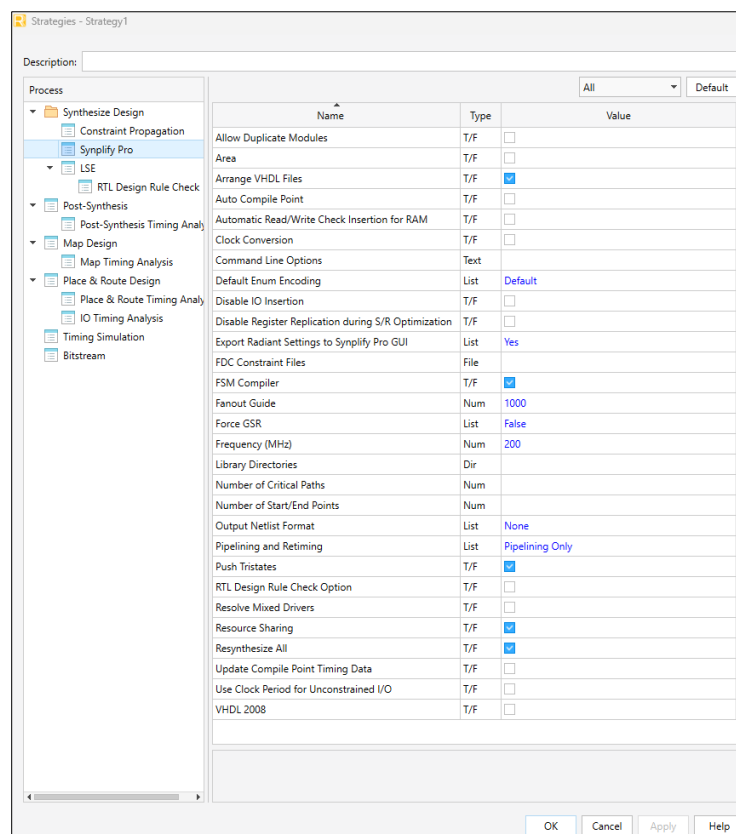
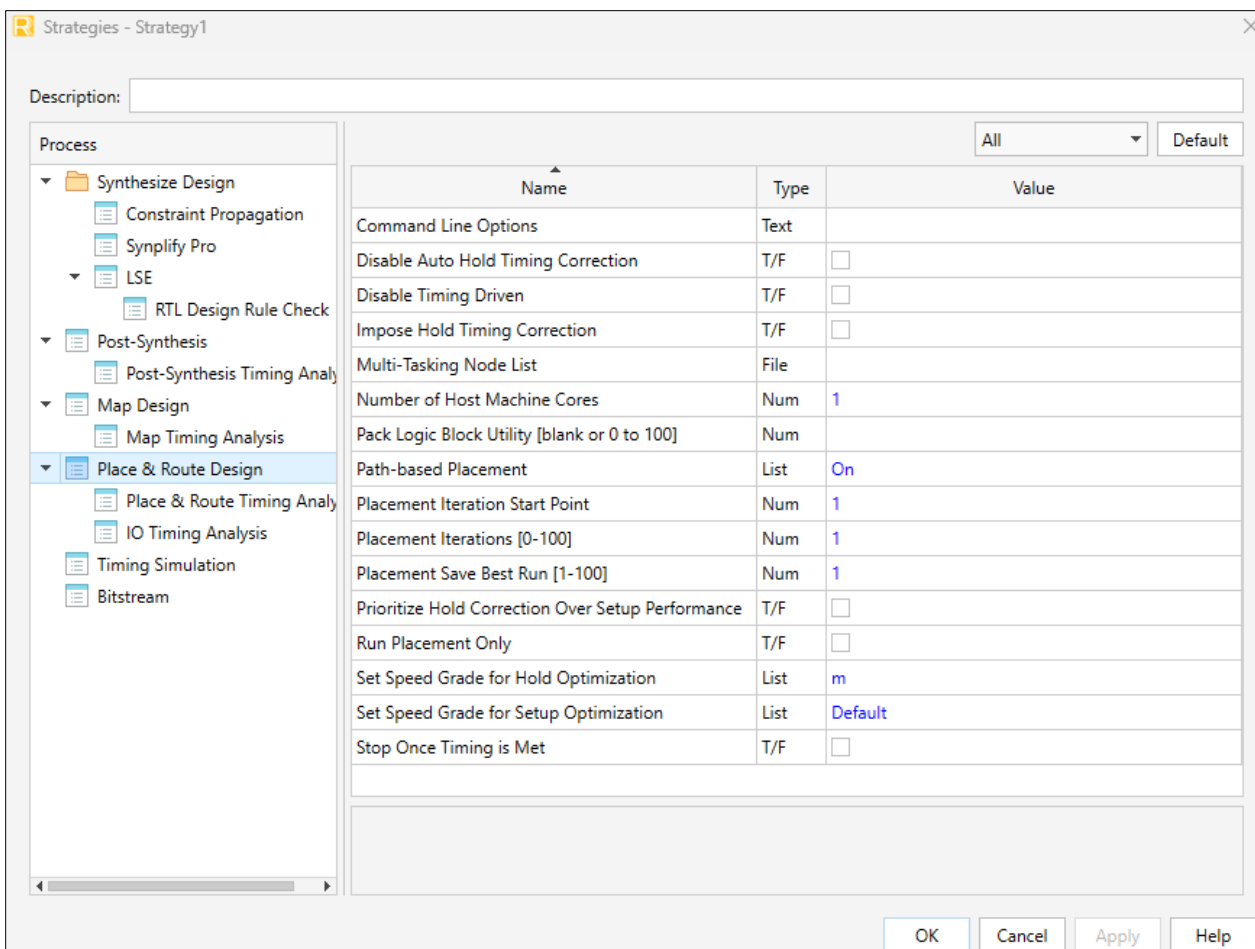

Figure 5.20. Synthesis Strategy Settings
Figure 5.21. Place and Route Design Strategy Settings
10. Set the synthesis strategy (Figure 5.20) and the Place and Route design strategy (Figure 5.21).